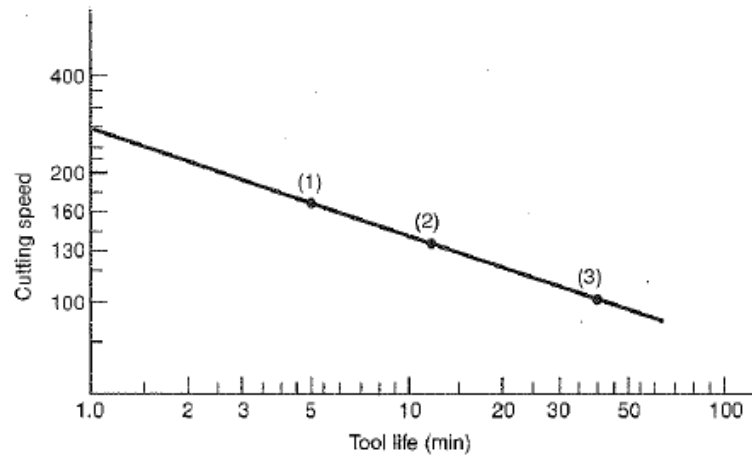

Figure 1
- Determine the value of C and n in the plot as shown in Figure 1 by selecting cutting speed (m/min) and tool Life(min) of three points on the curve and by using simultaneous equations of the form $VT^n=C$.